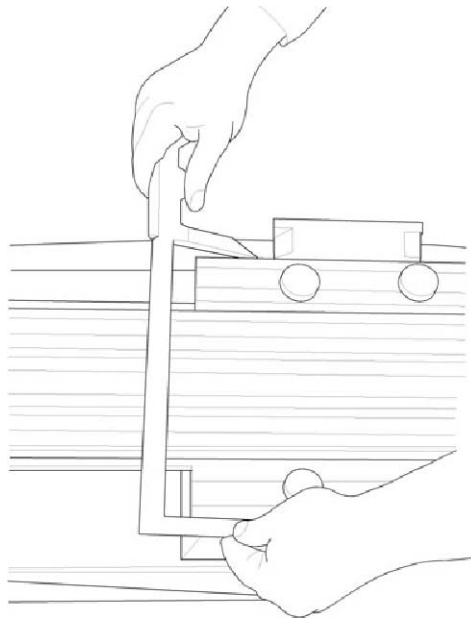

Fig. 5-19 Checking the sliding block distance
8. See Figure 5-19. Check the distance between the sliding blocks is consistent.